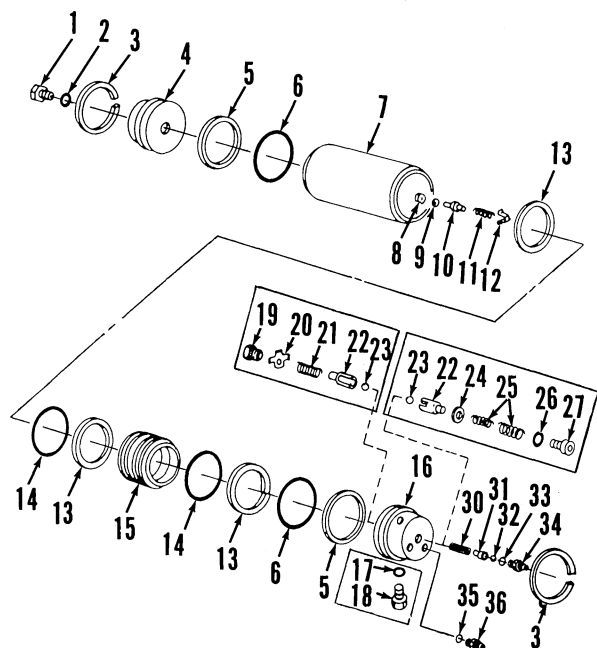

Fig. 203—Exploded view of brake accumulator. Parts shown in insets are used on early models.
CAUTION: Bleed nitrogen gas from accumulator before attempting to disassemble. Remove plug (1—Fig. 203) and depress charging valve (10) until all gas has escaped.